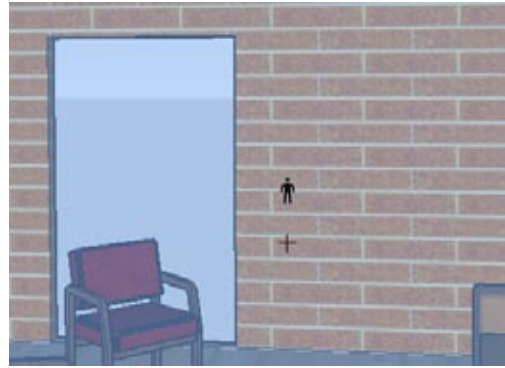

Figure 11-37
6. Walk straight forward by keeping the left mouse button pressed and moving the mouse straight up. Moving the mouse higher will make you walk faster, so move up only slightly for now. You will get stuck almost immediately because you will run into the door (ouch). The cursor turns into a stick-figure person (Figure 11-37).